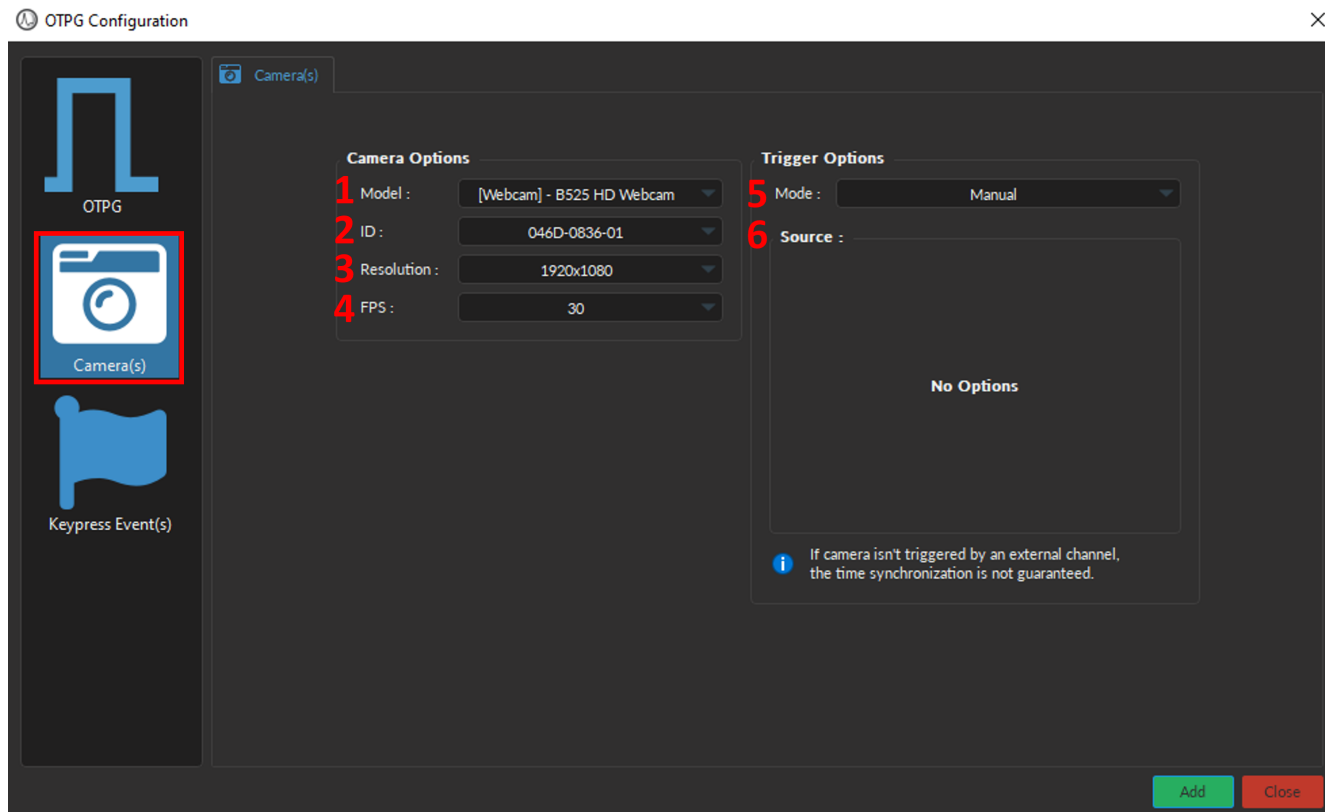
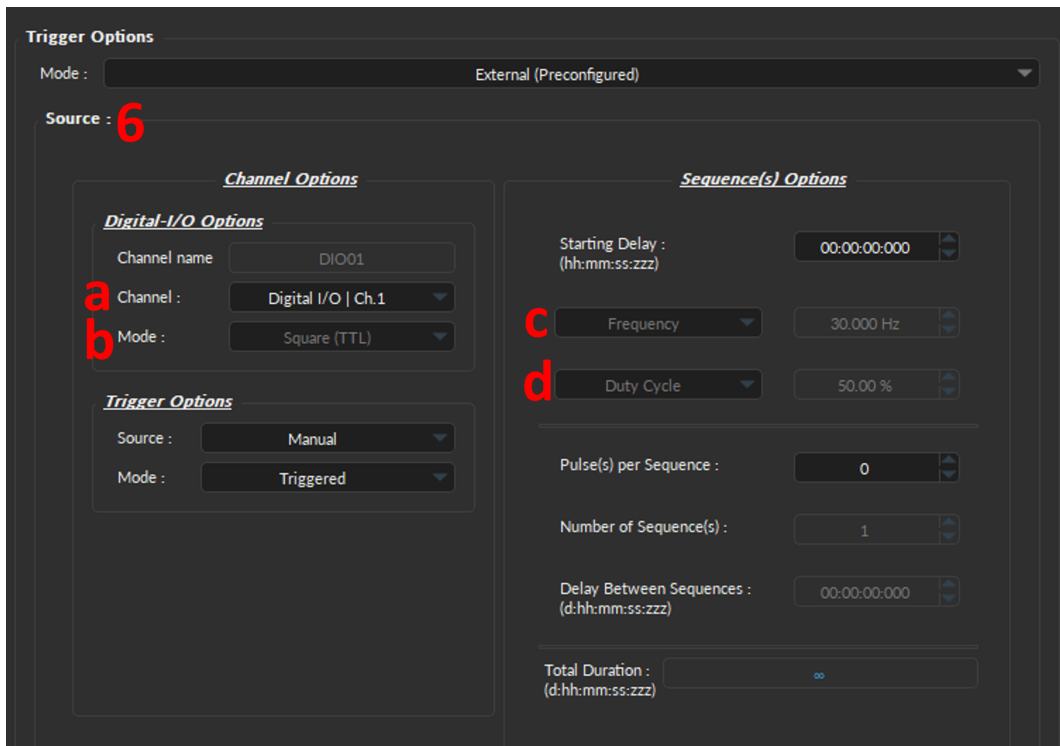

Figure 10.18: Channel(s) configuration window, Camera
Figure 10.20: Channel(s) configuration window, Camera - External (Preconfigured)
1. The **Model** (Fig. 10.18, 1) allows you to select the camera of choice based on the type of camera.
2. **ID** drop-down list (Fig. 10.18, 2) is used to select a camera based on its unique ID. The ID is particularly useful if multiple cameras of the same model are required for the experiment.
3. The **Image Size** (Fig. 10.18, 3) is used to set the resolution of the image. The large the number of pixels used for width x height, the better the resolution. Currently, image size can ranges between 160x120 to 1920x1080 pixels.
4. The **FPS** (Fig. 10.18, 4) is used to specify the frame rate of the camera (i.e. the number of images displayed per second). FPS can be any value between 5 to 30 for web cameras and up to 60 FPS for the *Doric Behavior Camera*.
- The **Mode** (Fig. 10.18, 5) sets the type of trigger that will control the camera. Depending on the type of camera, at most three modes are available:
- The **Source** (Fig. 10.18, 6 & Fig. 10.20) is only used for the **External (Preconfigured)** mode, and displays the **Digital I/O** channel with the preconfigured parameters that will be created at the same time as the **Camera Channel** (Fig. 10.20). For a detailed description of each Digital I/O parameter see Section 10.2.3. Briefly, key parameters include:
- The **Channel** (Fig. 10.20, a) corresponds to the physical Digital I/O channel number on the OPG that is connected to the trigger cable of the *Doric Behavior Camera*.
- The **Mode** (Fig. 10.20, b) is by default set to the *Square (TTL)* which provides the external trigger signal to the camera. This parameter cannot be changed.
- The **Frequency** (Fig. 10.20, c) corresponds to the **FPS** set in the **Camera Options**. Changing the **FPS** will automatically change the **Frequency** in the **Sequence(s) Options**.
- The **Duty Cycle** (Fig. 10.20, d) is by default 50%. The frame will be taken at the start of each square pulse.